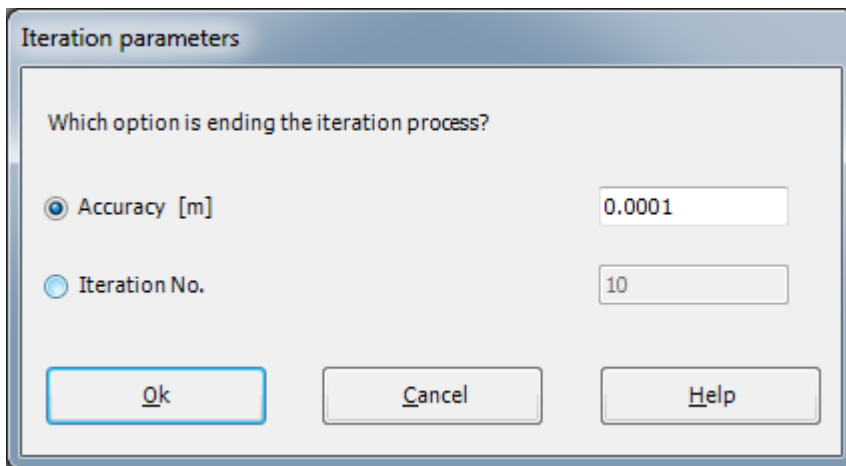

Figure 13.43 "Iteration parameters" option box
- Choose "Computation of all" command from "Calculation" menu in "Solver" Tab window. The following "Iteration parameters" option box in Figure 13.43 appears